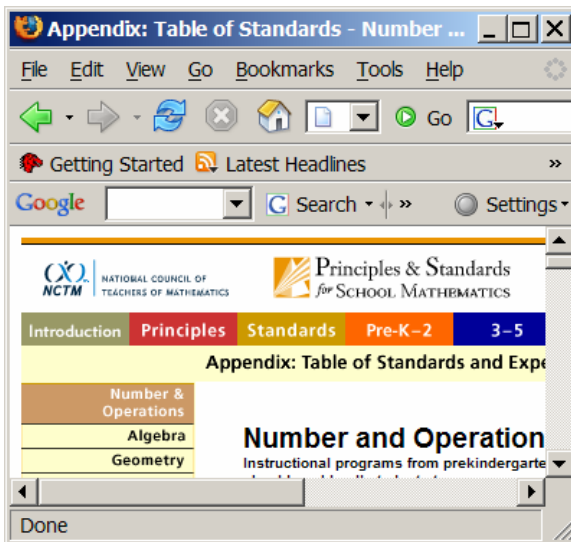

Figure 4A. *Principles and Standards for School Mathematics*.
- *Principles and Standards for School Mathematics*: Published by National Council of Teachers of Mathematics (NCTM, 2004), available from <http://standards.nctm.org/document/appendix/numb.htm> (Figure 4A).